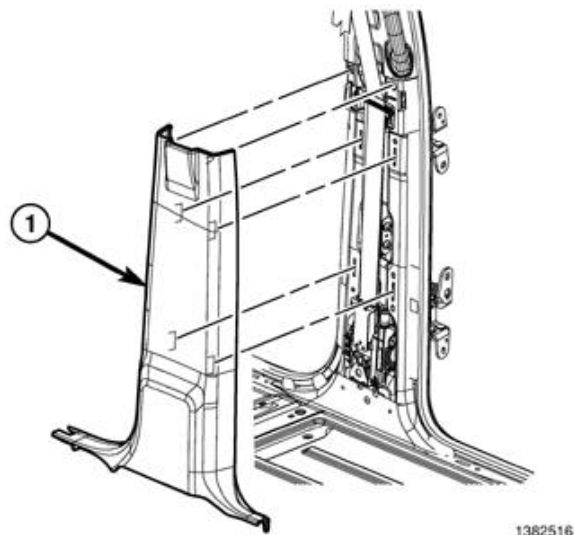

Figure 70 – B-Pillar Lower Trim Panel
6. Release the retaining clips and remove the B-pillar lower trim panel to allow for removal of the B-pillar upper trim panel (Figure 70).